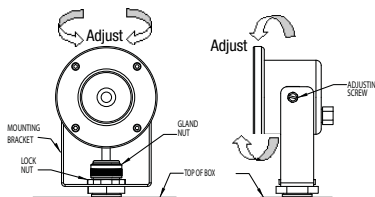

Figure 3
- a. Loosen (do not remove) the gland nut and the lock nut at the mounting bracket center (see Figure 3).